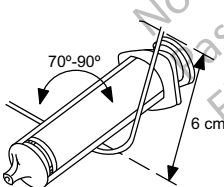

Figure 1. Curve the stylet
2. Select a stylet according to the function and to the preferred firmness. If desired, gently curve the stylet with any sterile, smooth-surfaced instrument (e.g., 10-cc or 12-cc syringe barrel) (Figure 1 Curve the stylet on page 12).